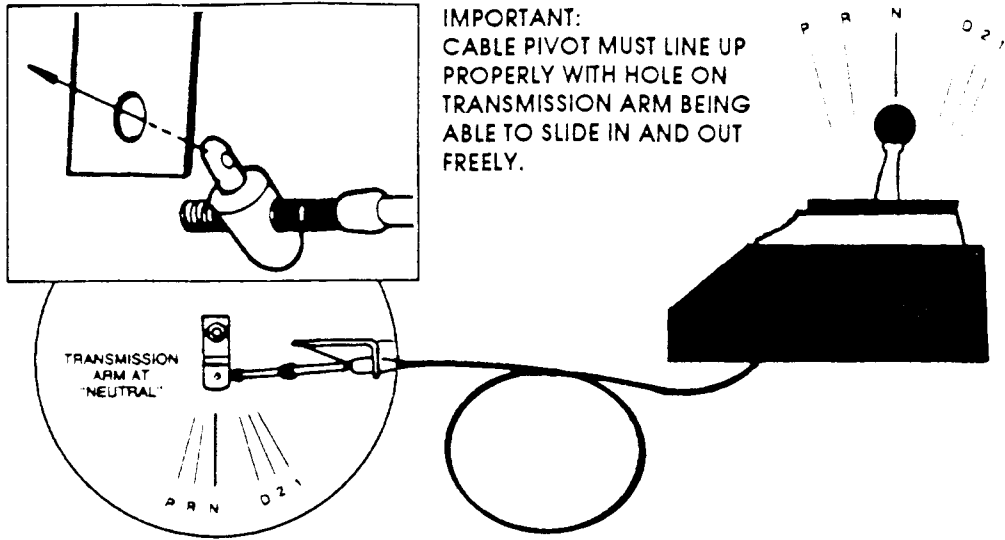

FIG. 8
1. Pre-wire Hurst neutral/park start switch (front switch located on shifter assembly) using two (2) female crimp connectors (Item #22) and two (2) suitable lengths of 16 gauge insulated automotive grade wire (not supplied). Strip 1/4" of insulation off each end of wire and firmly crimp female connector onto one end of each wire. Push female connectors onto switch terminals. Route wiring away from shifter assembly so it will not interfere with internal moving parts. (Refer to Figure 8).
2. Locate wire connected to starter solenoid terminal marked "S" and trace to original equipment neutral start switch. Locate wire connected to "Solenoid" terminal of ignition switch and also trace to original equipment switch and connect to Hurst neutral/park start switch wire leads. Use correct size insulated electrical butt connectors to properly connect the wires together. (Refer to Figure 8).
1. Pre-wire Hurst back-up light switch (rear switch located on shifter assembly) using two (2) female crimp connectors (Item #22) and two (2) suitable lengths of 16 gauge insulated automotive grade wire (not supplied). Strip 1/4" of insulation off each end of wire and firmly crimp female connector onto one end of each wire. Push female connectors onto switch terminals. Route wiring away from shifter assembly so it will not interfere with internal moving parts (Refer to Figure 8).
2. Locate wire lead connected to back-up lights and trace to the original equipment back-up light switch. Disconnect both wires leading to the back-up light switch and connect to Hurst back-up light switch wire leads. Use correct size insulated electrical butt connectors to properly connect the wires together. Note: One wire lead from the Hurst back up light switch must have 12 volt power when the ignition key is in the "On" position. (Refer to Figure 8).